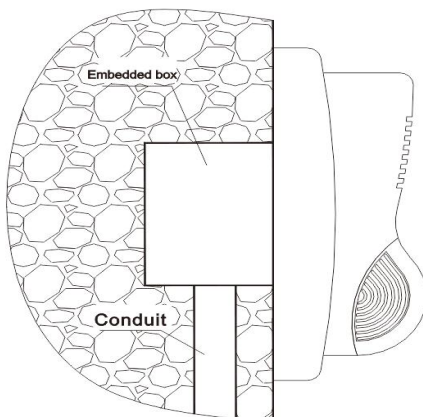
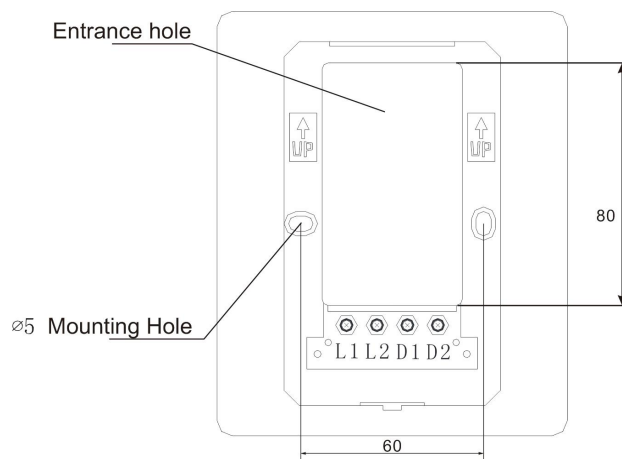

Fig. 2
Fig.3
(1) Unplug the base.
(2) Fix the base. Thread cable through entrance hole from the back of base; according to the words and directions of arrow around the entrance hole, fix the base.
(3) The sounder strobe is mounted inside the wall. The base box and cover of the sounder strobe are plugged together, surfaced mounted on 86H50 embedded box. The mounting hole distance is 60mm (Fig. 3), and the installation of the sounder strobe is shown in Fig. 2.
2. Terminals are shown in Fig.3.